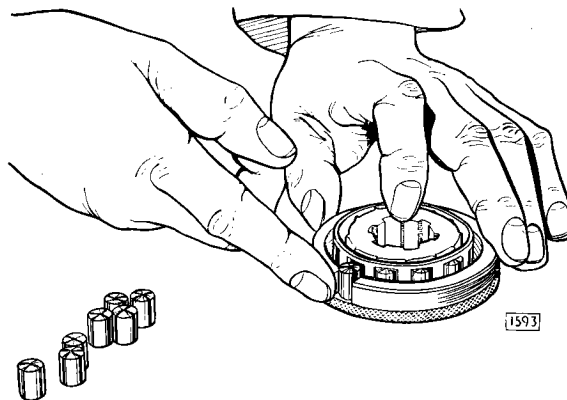

Fig. 31. Assembly of the uni-directional clutch (Tool No. L.178).
2. Replace the thrust washer and uni-directional clutch inner member with its rollers and cage. A fixture (Fig. 31) is needed for retaining the rollers in position when assembling the clutch. Ensure that the spring is fitted correctly, so that the cage urges the rollers up the ramps on the inner member.